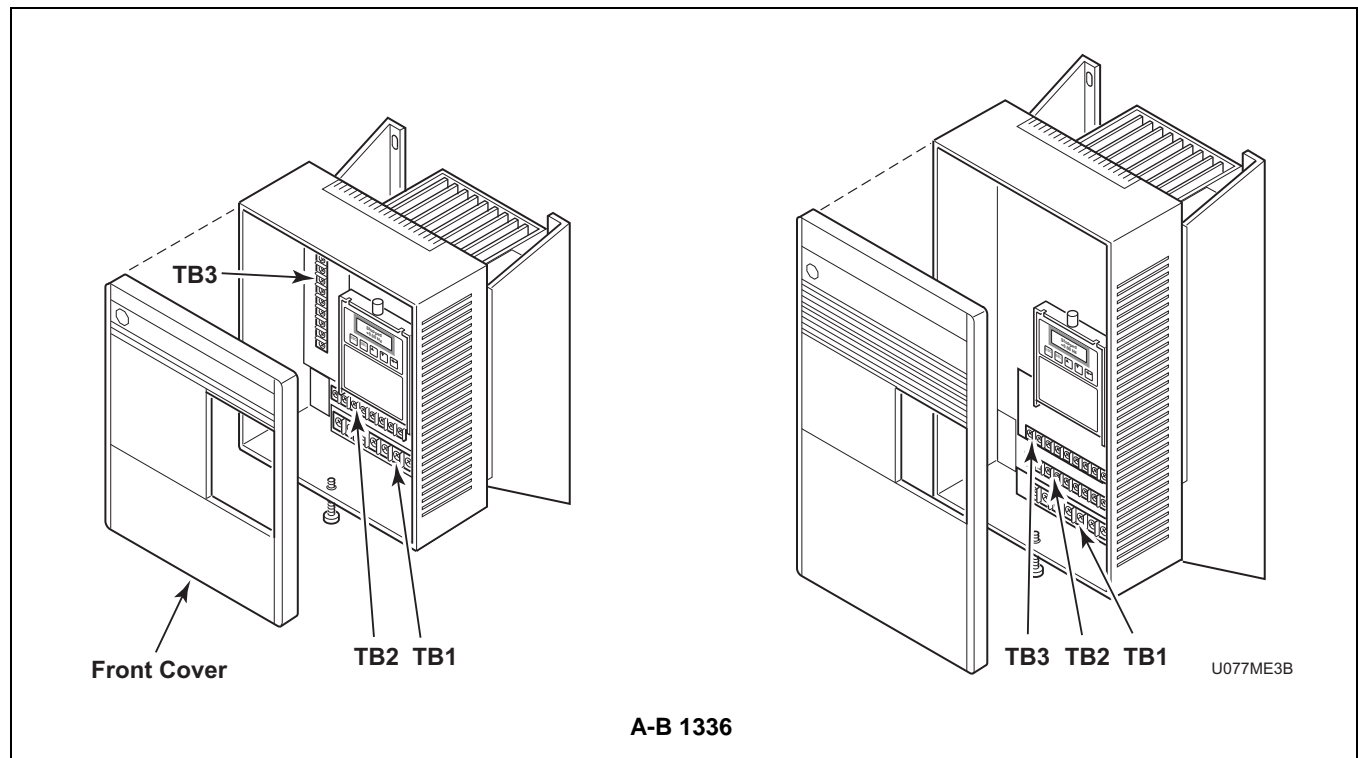

Figure 48
2. Loosen the front cover fastener located at the base of the front cover. Refer to *Figure 48*.